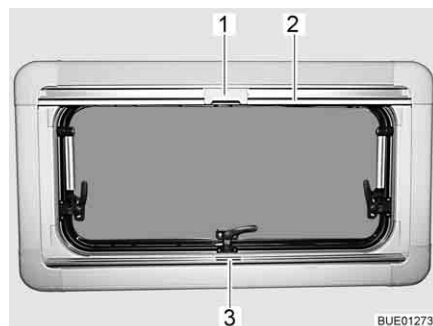

Fig. 84 Hinged window
*Closing:* ■ Grip the Roman shade using the holding bar (Fig. 84,3), pull it from the bottom to the top and then release it at the desired height. The Roman shade will stay at this height.
*Closing:* ■ Pull the insect screen down using the holding bar (Fig. 84,2), until it touches the holding bar of the Roman shade (Fig. 84,3).
■ Clip the catch (Fig. 84,1) on the insect screen into the handle of the Roman shade.
*Opening:* ■ Push the catch (Fig. 84,1) on the insect screen inwards.
■ Move the insect screen back slowly on the holding bar (Fig. 84,2).